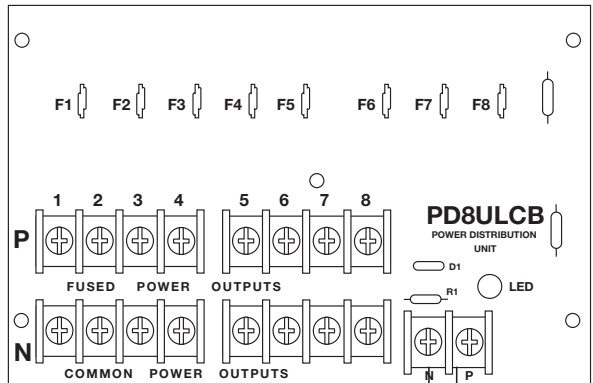

Fig. 1
3. Connect the desired power supply output to terminals marked [INPUT] (Fig. 1).
Note: Left terminal is NEG. (-) and right terminal is POS. (+) (Fig. 1).